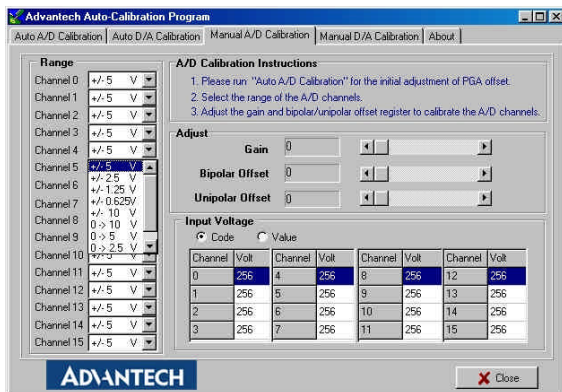

Fig. 5-13: Selecting Input Range in the Manual A/D Calibration panel
Step 1: Click the *Manual A/D Calibration* tab to show the A/D channel manual calibration panel. Before calibrating, acquire the reference voltage from a precision standard voltage reference. Go to the **Range** form, select a channel and the target voltage range according to the input voltage value from a precision standard voltage reference (*Fig. 5-13*).